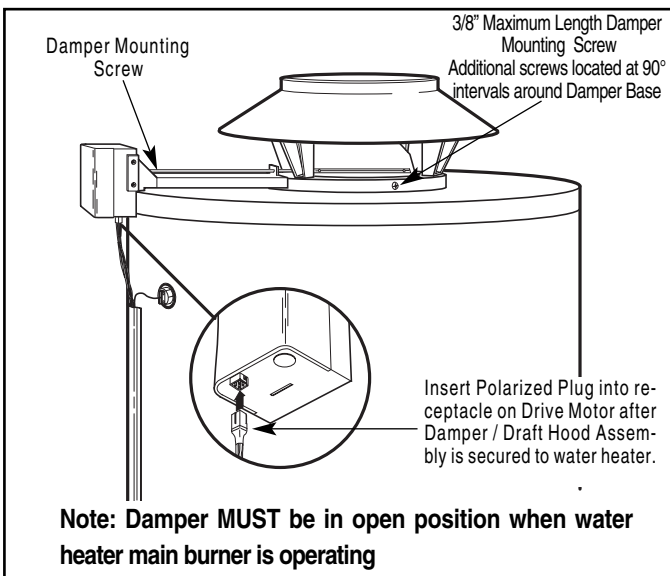

Figure 3. — Installing Damper / Draft Hood Assembly
- B.)** Mark a spot on top pan through the hole in support bracket at the rear of the drive motor. (Refer to Figure 3.)
- D.)** Reinstall the draft hood - flue damper assembly and secure it with a sheet metal screw through the support bracket. Also install three (3) 3/8" (.95 cm) maximum length self drilling screws (supplied with Damper Assembly) into holes located around the base of Damper Assembly. (Refer to Figure 3.)
- E.)** Electrical connections to the drive motor are made with a plug that is polarized to insure correct insertion. The drive motor receptacle is external to the casing for easy access. (Refer to Figure 3.)